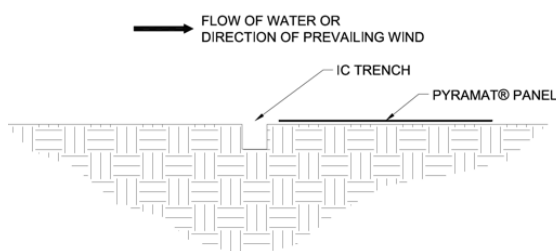
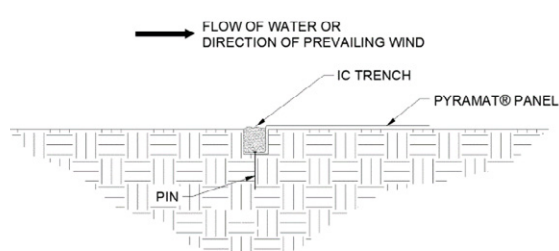
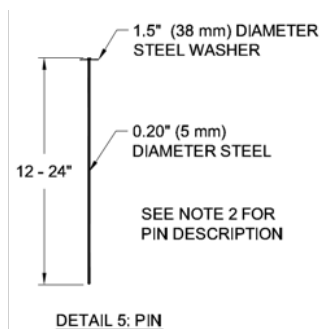

Figure 4: Initial Channel (IC) trench alignment
Figure 5: Initial Channel (IC) trench placement
Figure 6: Securing pin
2. Lay the **PROPEX** Pyramat panel on the downstream side of the IC trench (Figure 4). Place the panel edge in the IC trench, ensuring full coverage along the bottom of the entire IC trench with the material (Figure 5).
3. Secure **PROPEX** Pyramat with pins in the IC trench (Figure 5). Pins should be made of steel with a 0.20 in (5 mm) minimum diameter, having a 1.5 in (38mm) diameter washer at the head, and a length between 12 and 24 in (300-600 mm) with sufficient ground penetration to resist pullout (Figure 6). Longer pins may be required for looser soils. Heavier metal stakes may be required in rocky soils. Suggested placement of pins for the IC trench is along the bottom of the trench with pins on 12 in (300 mm).
4. Backfill and compact the IC trench (Figure 6).